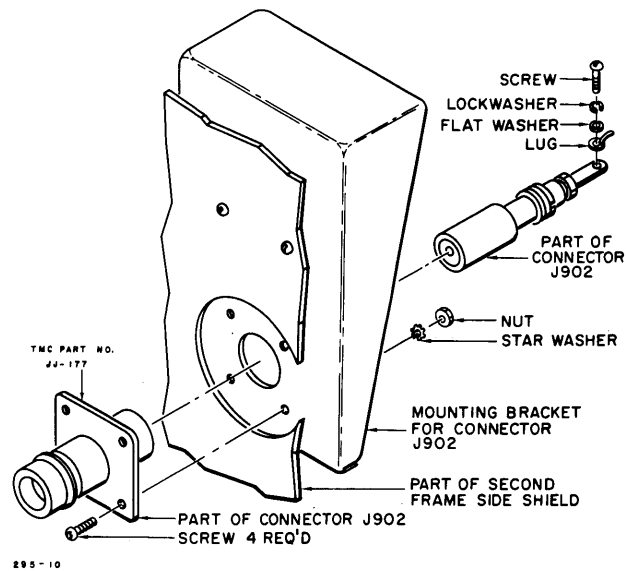

Figure 4-4. Output Connector, Installation Diagram
- k. Mount connector JJ-137 (contained in crate 2) on the upper right side of second frame (see figure 4-4).